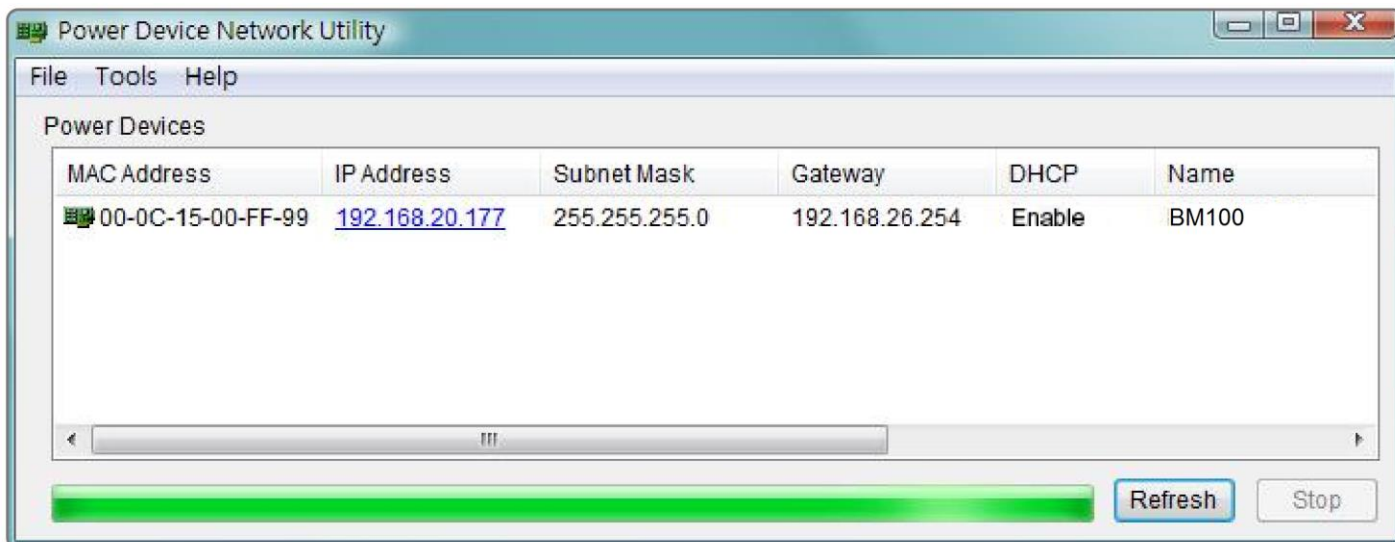

Figure 1. The main window of the “Power Device Network Utility” program.
3. The main window of the Power Device Network Utility program is shown in Figure 1. The configuration tool will display all CyberPower Remote Management devices present on the local network subnet. The “Refresh” button is used to search the local network subnet again.